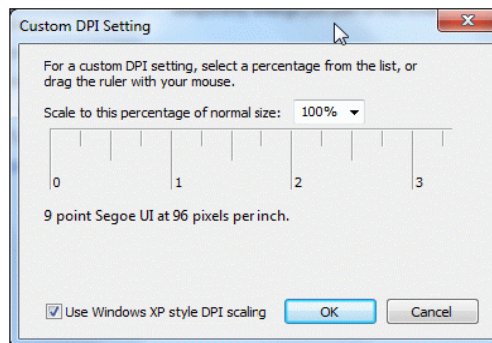

FIGURE 54.
- The screen shown in Figure 54 may be caused by the PC monitor. The solution is to resize the set custom text size (DPI) by going to Control Panel -> Appearance and Personalization -> Display -> Set custom text size (DPI) and choose “Scale to this percentage of normal size: 100%” (96pixels/inch).